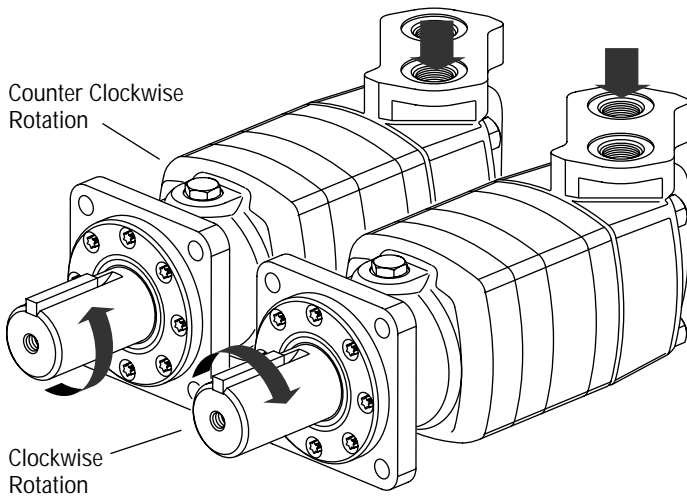

Figure 18
**Timing Step 3**—Locate any one of the side openings of the valve that goes through to the face of the valve. Line up this side opening with the open slot of the valve plate that is in line with the largest open pocket of the Geroler. Rotate the valve clockwise until the spline teeth engage (1 spline tooth), see Fig. 17. This will provide the rotation shown when pressurized as shown, see Fig. 18.